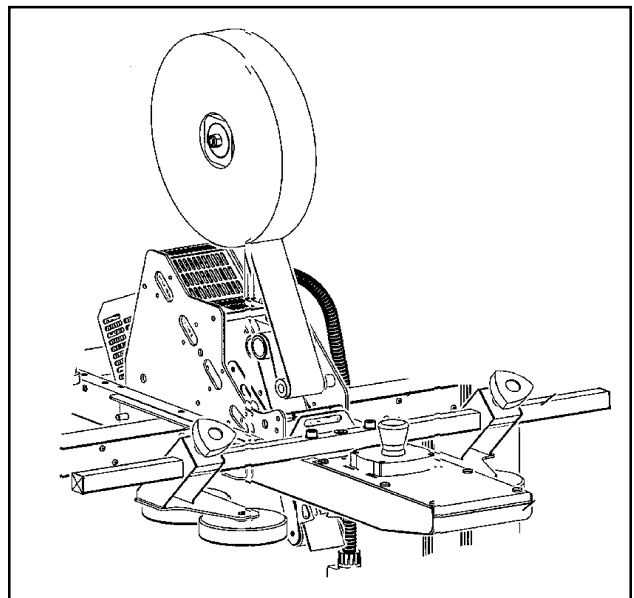

Figure 3-5—Compression Rollers (optional)
4. TOP FLAP COMPRESSION ROLLERS (Figure 3-5)